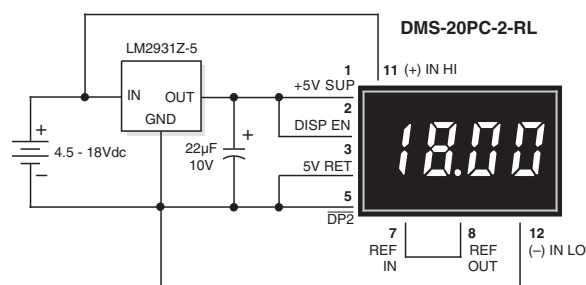

Figure 8. 4.5-18V Power Supply Monitor
**6. Power Supply Monitoring:** One of the most common digital panel meter applications involves monitoring the output voltage of the system power supply — often this supply also powers the meter itself. The low-power, red LED DMS-20PC-2-RL can be configured to allow power supply monitoring over the range of 4.5-18Vdc. The circuit in Figure 8 uses a low-drop-out, three-terminal regulator (LM-2931Z-5, available from National Semiconductor) to provide regulated 5V-power to the meter.